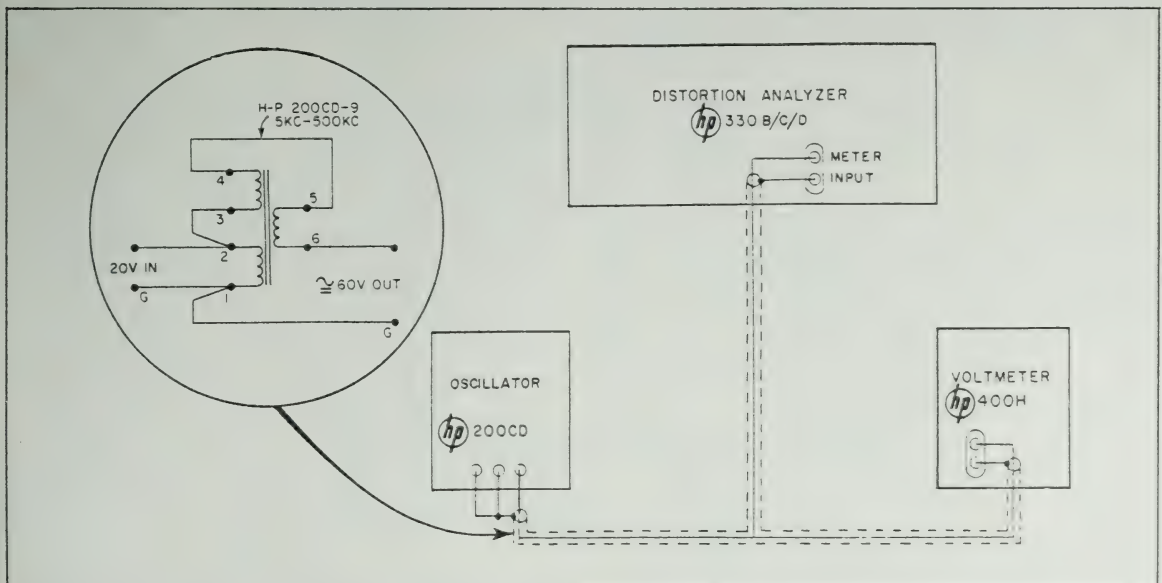

Figure 4-3. Test Bench Equipment Arrangement
a. Connect equipment as shown in figure 4-3. Set 330B voltmeter and 400H to 30-volt range. Adjust output frequency of 200CD to 5000 cps and adjust its output to produce reading of 0.9 on 0-1 scale of 330B meter. Record reading obtained on 400H (this meter reading is referred to as "reference level" in the following procedure).
k. Connect transformer 200CD-9 as shown in figure 4-3 and check frequency response on 100- and 300-volt ranges. Establish a 5000-cps reference level on each range and check response from 5000 cps to 100,000 cps. Adjust C20 (figure 4-6) at 100,000 cps on 100RMS VOLTS range to bring the high-frequency reading within ± 0.3 of reference reading. Adjust C23 (figure 4-6) at 100,000 cps on 300 RMS VOLTS range to bring the high-frequency reading to within ± 0.3 of reference reading.
i. Connect transformer 200CD-9 as shown in figure 4-3. Set 330C/D voltmeter and 400H to 30-volt range. Adjust output frequency of 200CD to 5000 cps and adjust its output amplitude to obtain reading of 0.9 on 0-1 scale of 330C/D meter. Record reading obtained on 400H (reference level).
a. Connect equipment as shown in figure 4-3.